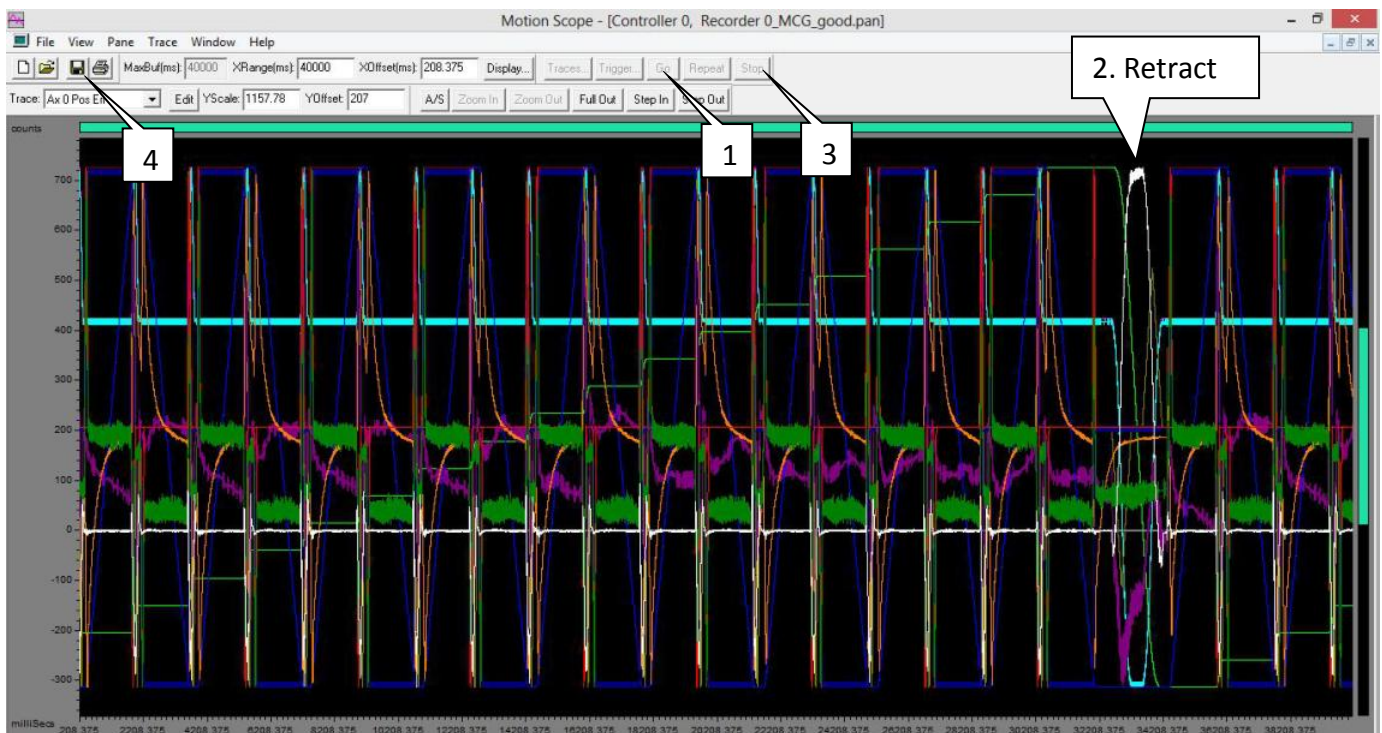

Figure 11 XY Motion Pattern [COMPLETE]
8. Click “Go” and motion waveform will start capture show like Figure 11.